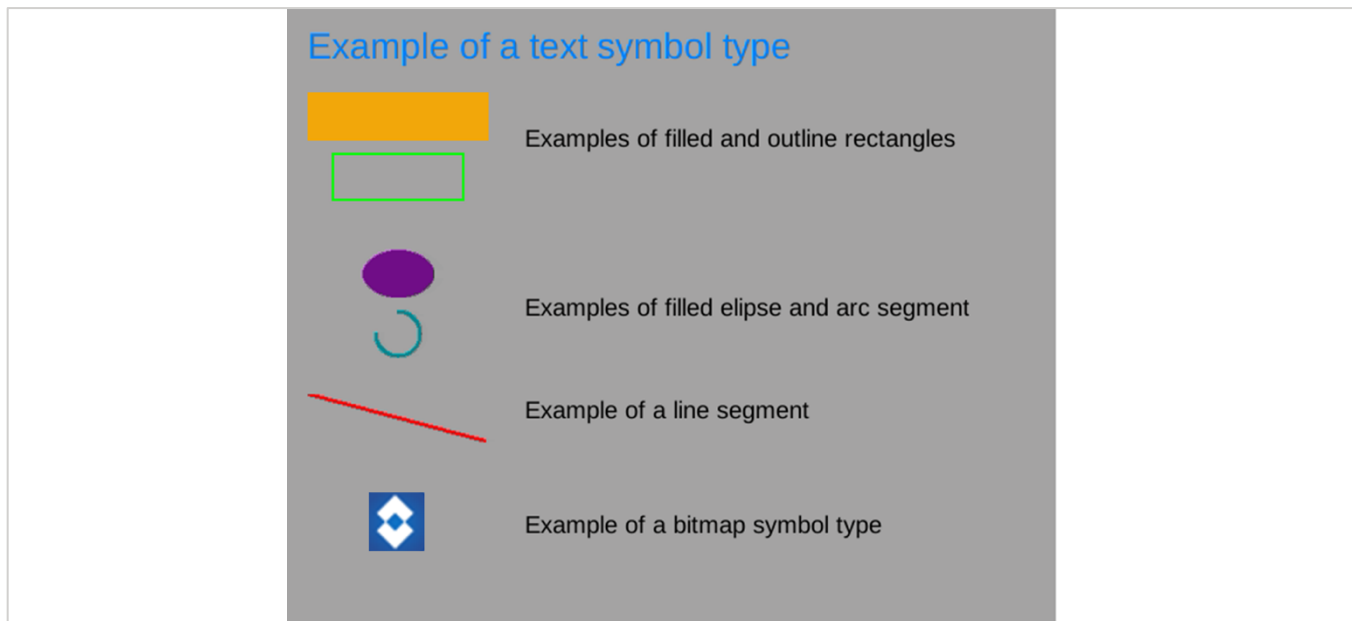

FIGURE 47: EXAMPLES OF BOSON+ SYMBOL TYPES
Boson+ provides the option to specify custom symbol overlays. The camera supports several built-in symbol types, including rectangles, elliptical arcs, text, and lines as exemplified in Figure 47. In addition to built-in symbol types, the camera allows bitmaps to be uploaded for display. The width of the bitmap must be an integer multiple of 8.
- Start radius / end radius, from 0 to 360. This attribute applies to the arc segment symbol type only. It specifies the starting and ending angles where angle = 0 is to the right and angle = 180 is to the left. The arc between the starting angle and ending angle is drawn clockwise. For example, the arc segment shown in Figure 47 has starting radius = 270 and ending radius = 180.
- Font type. 1 = built in font (Chrome Croscore Arimo font, used under authority of the Apache License, Version 2.0), 2 = user replaceable font file. This attribute applies to text symbol type only. All the text shown in Figure 47 was generated with the built-in font.